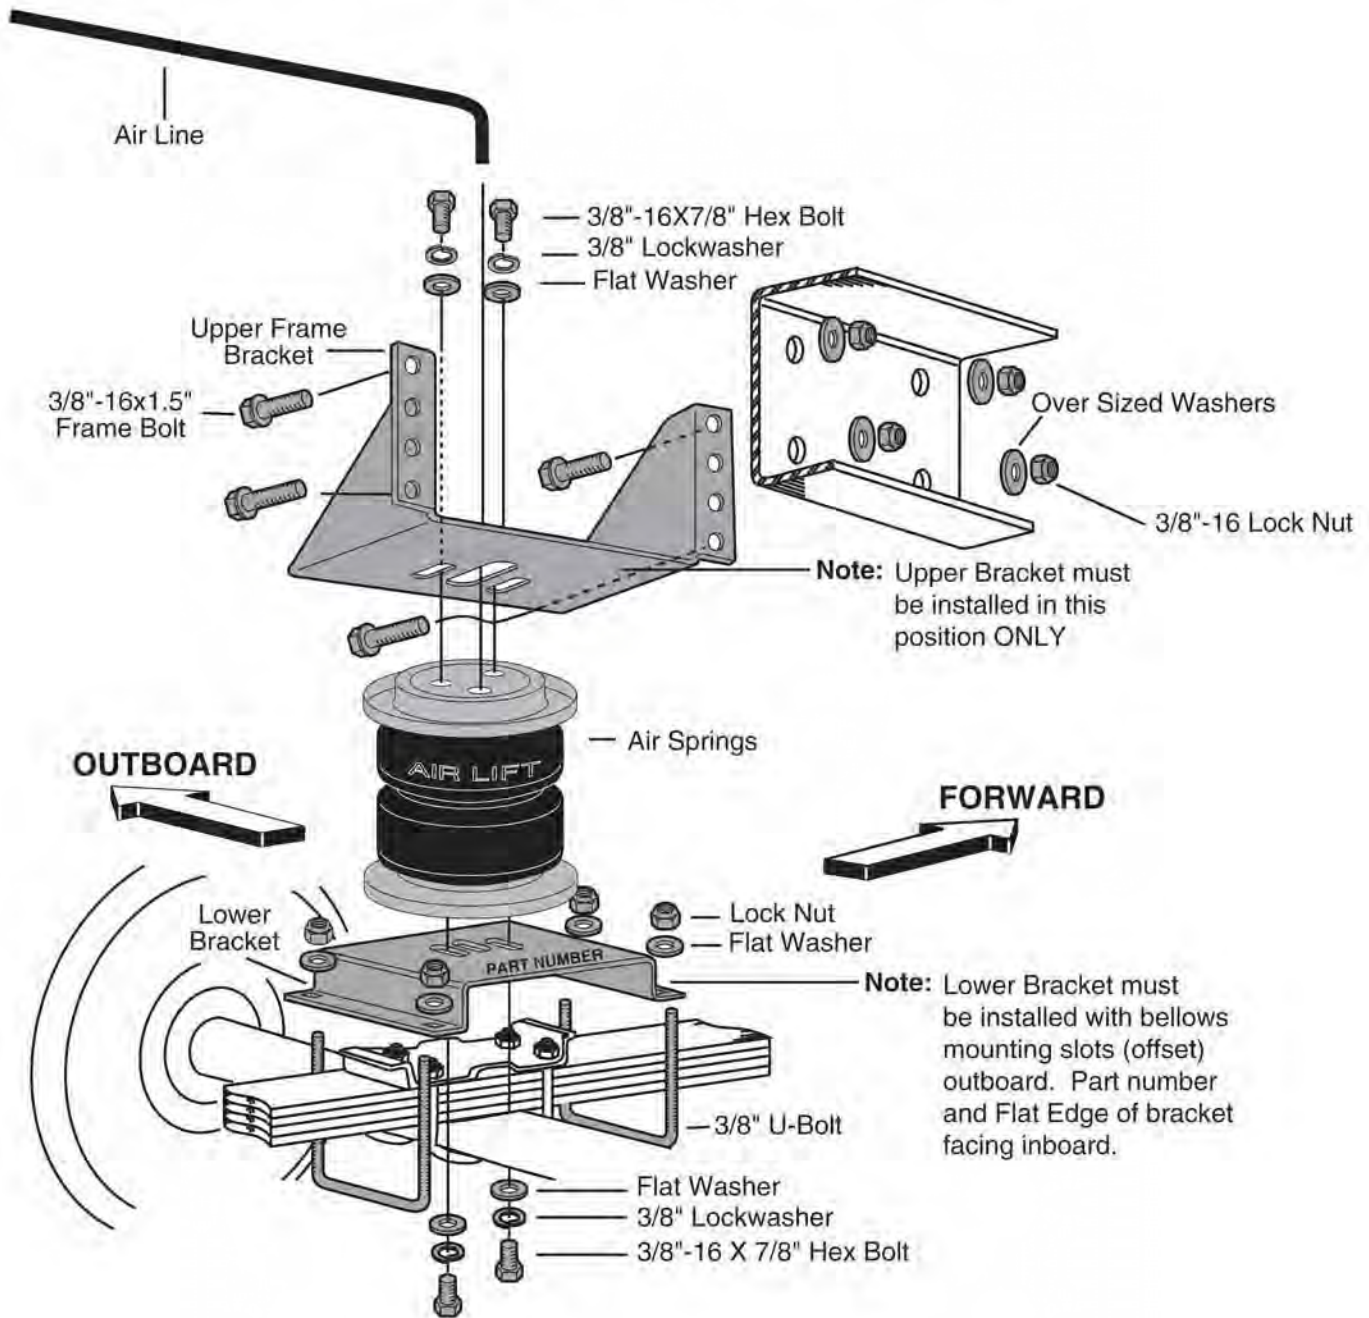

Figure 1
1. Set a roll plate on both ends of the air spring. The radiused (rounded) edge of the roll plate will be towards the air spring so that the air spring is seated in both roll plates (Figures 1,4 and 5).
2. Attach the lower bracket to the leaf spring using provided U-bolts, flat washers and lock nuts as shown in Figure 1.